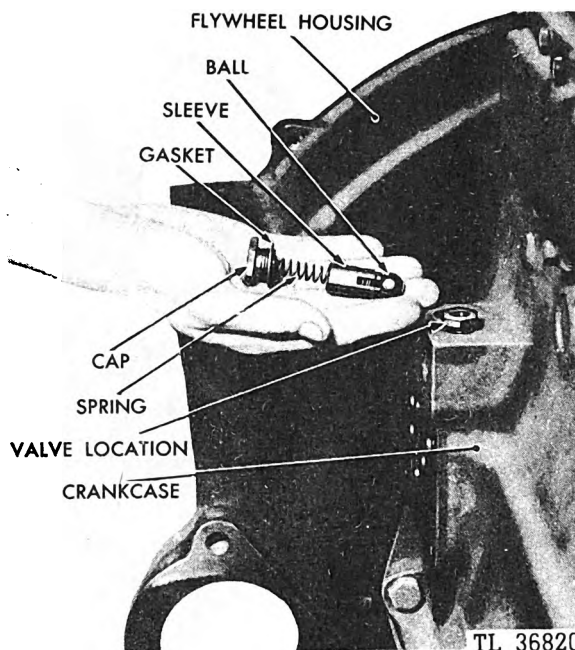

Fig. 168. Installing Oil Pressure Relief Valve
h. *Installing Oil Pressure Relief Valve.* With a chain hoist, set the engine upright, blocking up the front end of the engine. Install the oil pressure relief valve. (See Figure 168.)